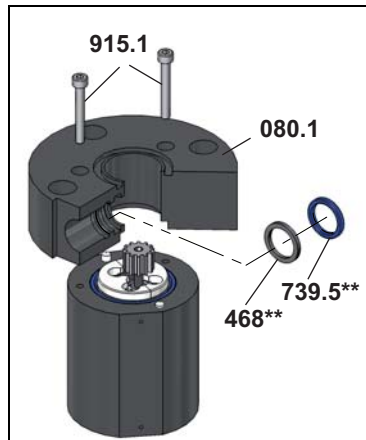

Fig. 1
2. Remove the o-ring **739.5**** and supporting ring **468**** through the hole in the middle of the bearing cover, see Fig. 1, page 29.